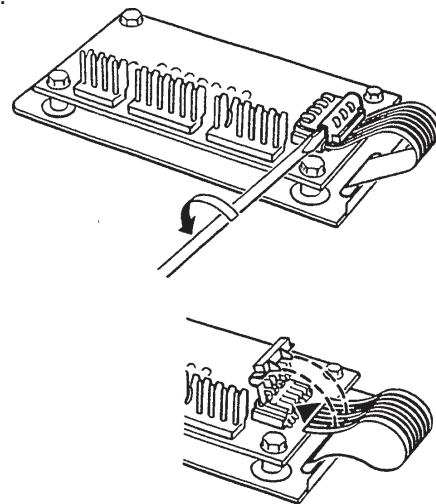

Figure 58. Switch Module Removal
- To open the connector labeled J3 insert a small pocket screwdriver and carefully twist counterclockwise, then pull out the ribbon (Figure 58).